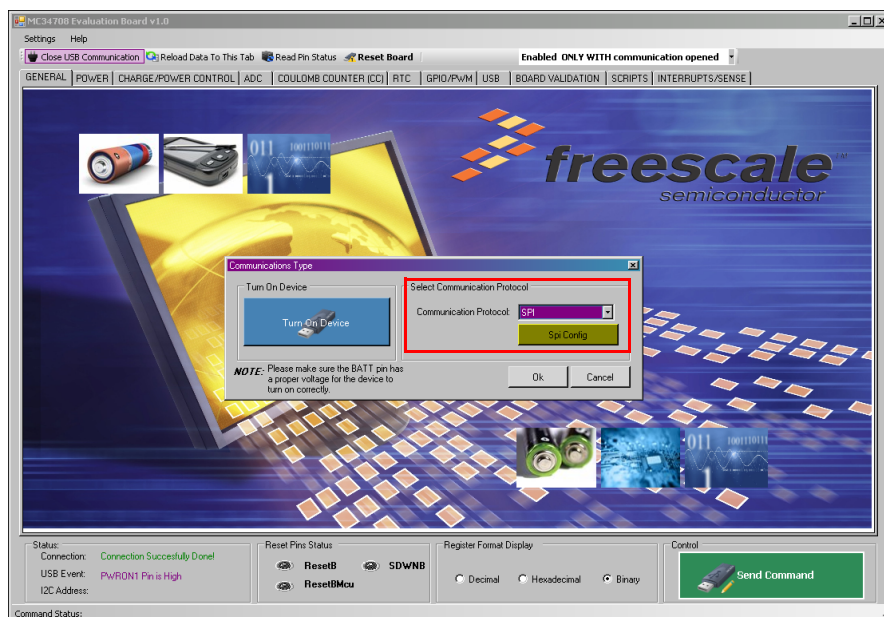
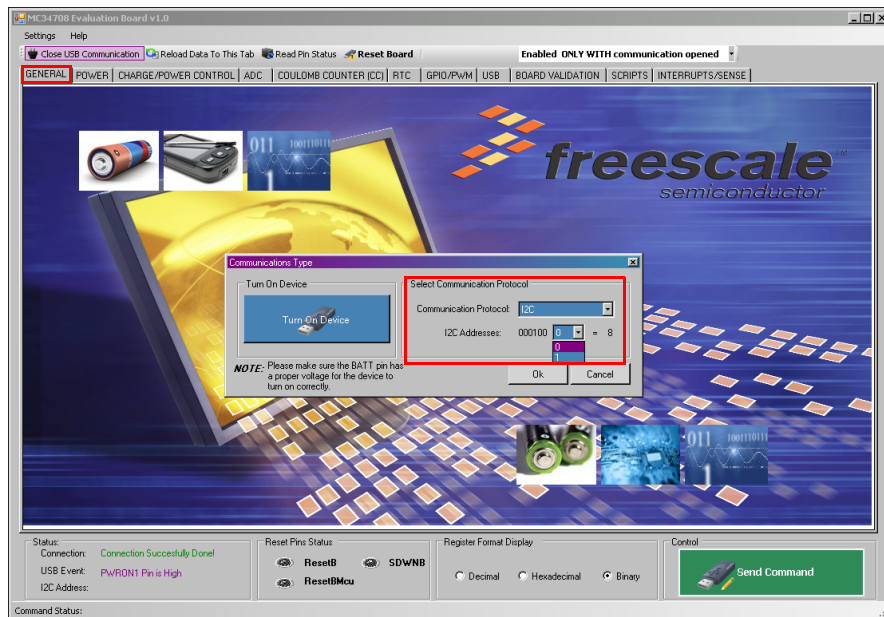

Figure 13. Communication Type Selection Window for SPI
Figure 14. Communication Type Selection Window for I²C
4. In the **General** tab, a **Communication Type** dialog box is displayed which allows you to select a type of communication protocol (**SCI** or **I²C**) from the list. (See Figure 13 and Figure 14). Click **OK**.